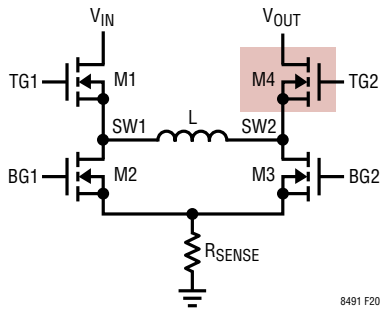

Figure 20. Simplified Diagram of Power Switches
1. *Automatic CCM/DCM Mode Switching:* Very large inductor current ripple can lead the LT8491 to operate with high peak inductor currents while still in DCM. In this case, the M4 switch (highlighted in Figure 20) can